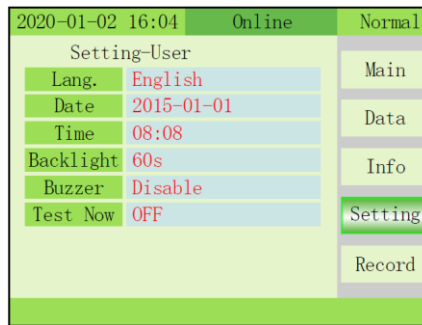

Fig. 3-14 Setting menu
- 8) SETTING-User: Press  key for short time to move to the setting page, then press OFF key (Fig. 3-14) to enter setting-user page. Press  key to change item, press OFF key to enter item and press  key to change value, press OFF key confirm the setting.